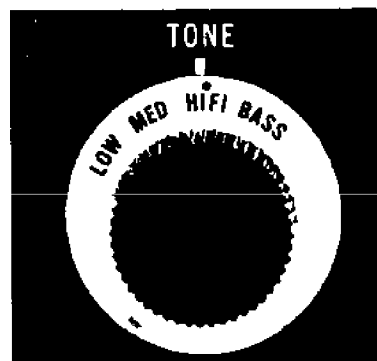

Figure 8. View showing Tone Control
9. The next control which will be of interest to you, will be the TONE control. (See Fig. 8.) When it is set on the red dot, the receiver produces substantially all musical tones as sent out by the radio station. However, by setting this control to BASS, HI FI, MED, or LOW, you can adjust the tone as you prefer.